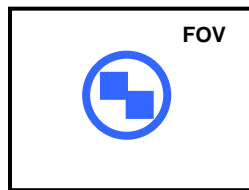

Figure 8 – Aiming Function Using The Blue Ring
3. Release the button to enter the Aim function. The aiming system turns on see Figure 8.